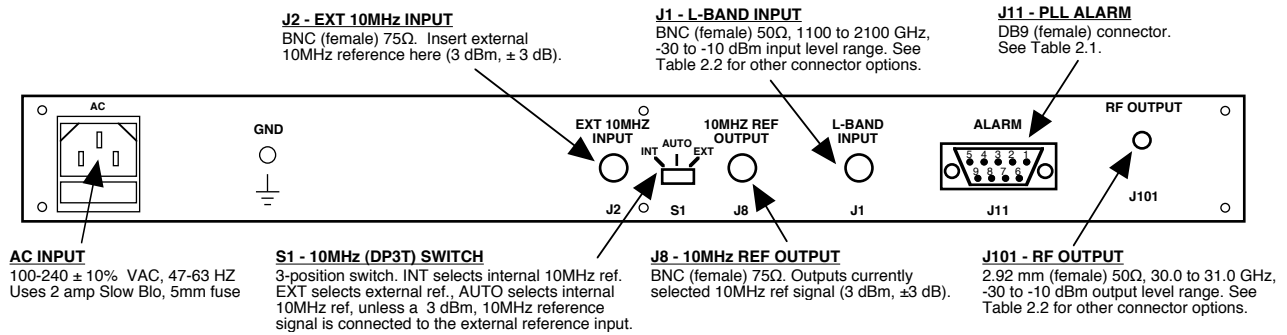

FIGURE 2.1 2115-310-1600 Rear Panel I/O's
2.2 Rear Panel Input/Output Signals - Figure 2.1 shows the input and output connectors on the rear panel.
1. Connect a -30 dBm to -10 dBm signal to L-BAND INPUT, J1 (Figure 2.1).
5. Select either INT (for internal 10MHz ref), AUTO (for internal 10MHz ref UNLESS a external 10MHz, 3 dBm signal is connected to J2), or EXT (for external 10MHz, 3 dBm ref that is inserted at J2) on rear panel switch S1 (Figure 2.1).
7. Check that a 10MHz, 3 dBm \pm 3 dB signal is present at the 10MHz REF OUTPUT (J8) (Figure 2.1).